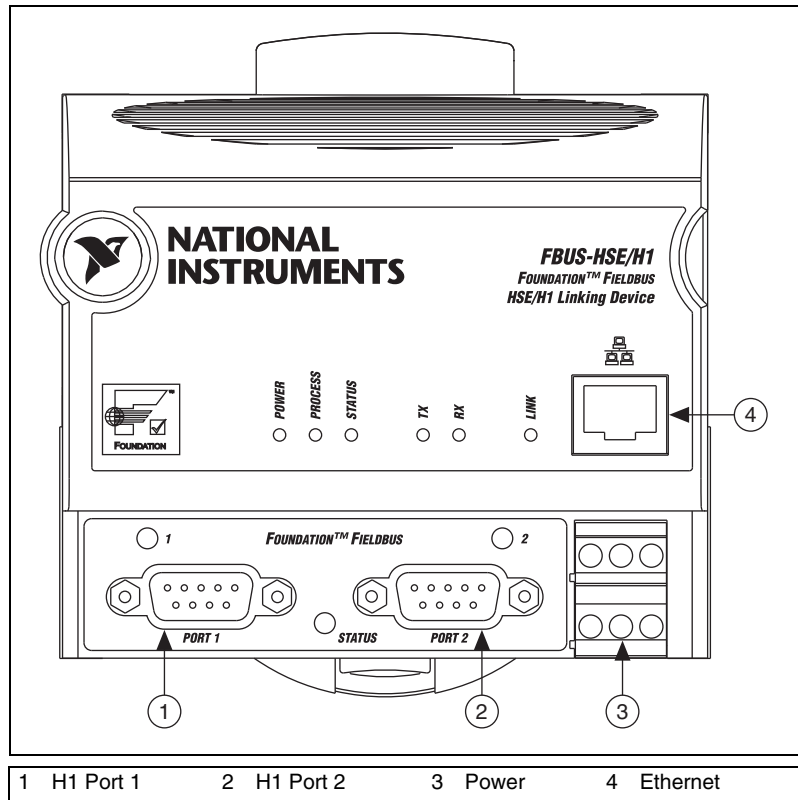

Figure 2-12. Connectors on the FBUS-HSE/H1 LD
- Figure 2-12 shows the power, H1, and Ethernet connectors on the FBUS-HSE/H1 LD.